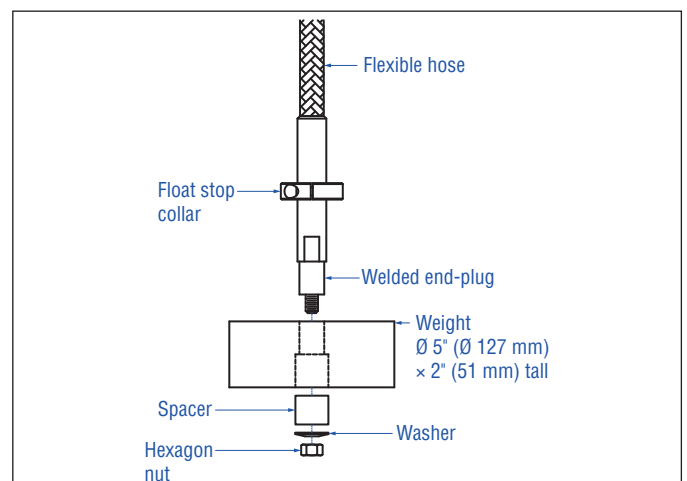
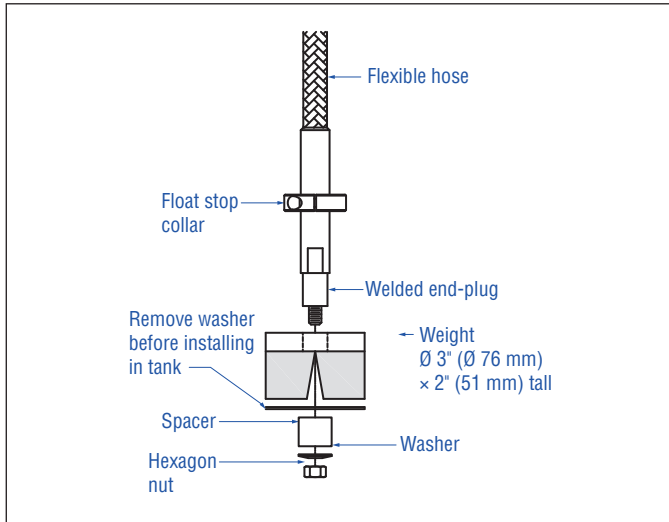
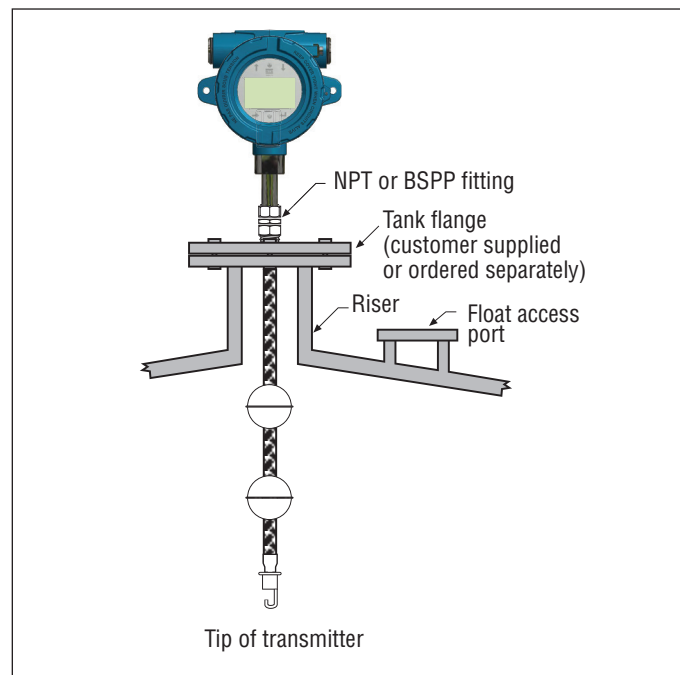

Fig. 8: Bottom fixing weight
Fig. 9: Bottom fixing magnet
Fig. 11: Threaded flange mounting for flexible pipe
5. Mount the hook, weight, or the magnet to the welded end-plug section of the pipe (this is the bottom rigid section of the pipe) using the supplied nut, spacer and washer, tighten securely as shown in Fig. 8, Fig. 11 and Fig. 9. For the magnet, remove washer before installing in tank.
In most applications, the Tank Slayer® transmitter can be mounted directly to the tank or flange via a NPT or BSPP threaded fitting, assuming there is a proper threaded connection available. If the float will not fit through the flange opening when the flange is removed, there must be some alternative means to mount the float on the transmitter from inside the vessel; this may require an access port nearby the entry point of the transmitter as shown in Fig. 11.